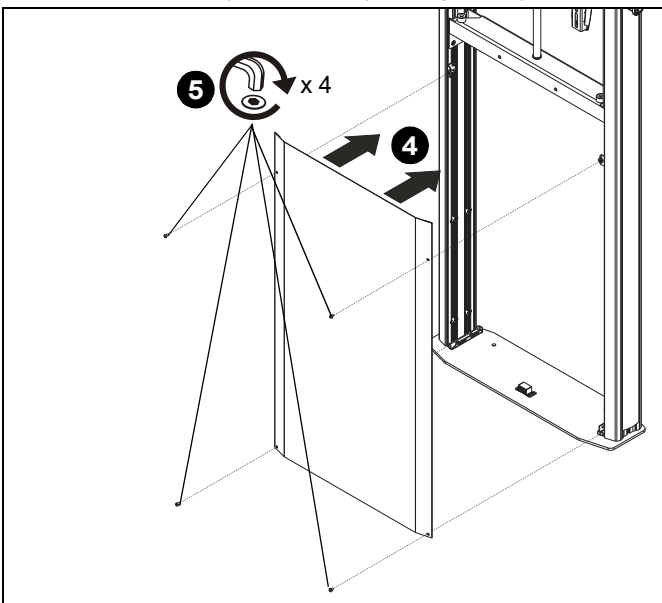

Figure 18
6. Reinstall lower cover. Refer to Cover Removal Section for details. (See Figure 18)
4. Install front cover back on mount using magnets. (See Figure 18)
5. (Optional) Re-install four button head cap screws if additional security is desired. (See Figure 18)